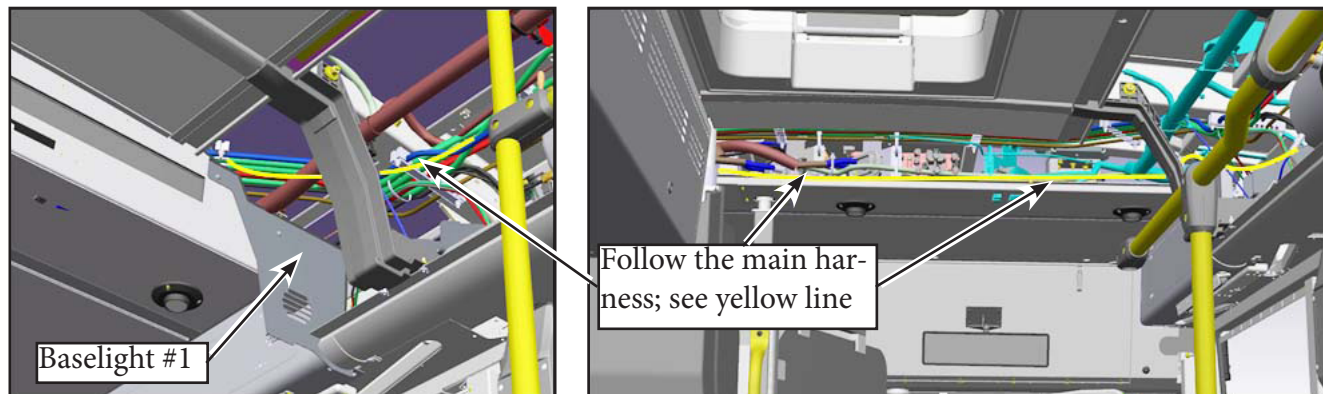

Figure 18 - Front-to-Back Cable Routing
- 2.5. Begin the routing of the front-to-back cable wire kit at baselight #1. Route the cable behind the main harness in the RF0 panel (see Figure 18)